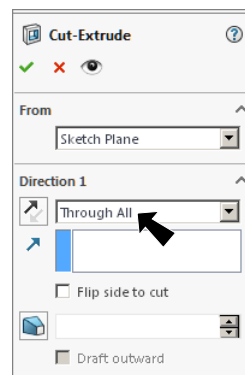

Fig. 13
Step 8. In the Cut-Extrude Property Manager set: under Direction 1, **Fig. 13**